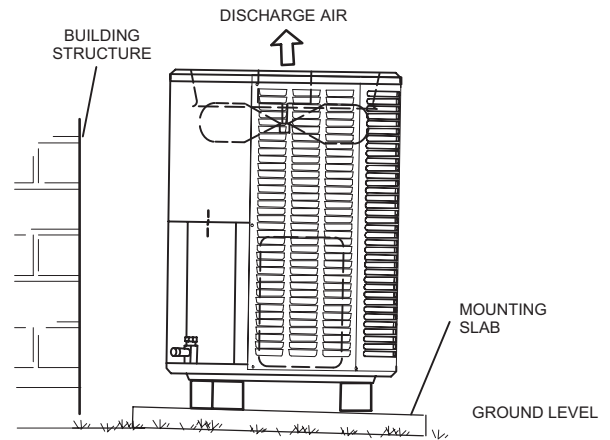

FIGURE 4. Placement and Slab Mounting
- When possible, do not install the unit directly outside a window. Glass has a very high level of sound transmission. For proper placement of unit in relation to a window see the provided illustration in figure 4, detail A.
The slab should have a slope tolerance as described in figure 4, detail B.
NOTE – *If necessary for stability, anchor unit to slab as described in figure 4, detail B.*